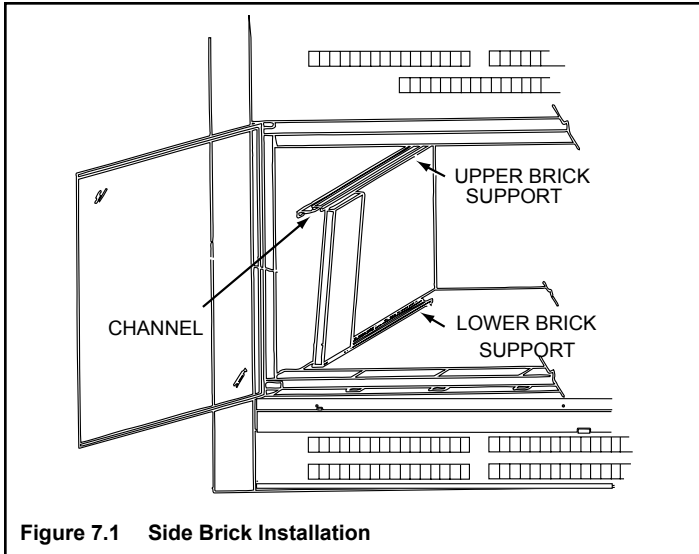

Figure 7.1 Side Brick Installation
- Set bottom of brick into lower brick support (three pieces per side). See Figure 7.1.